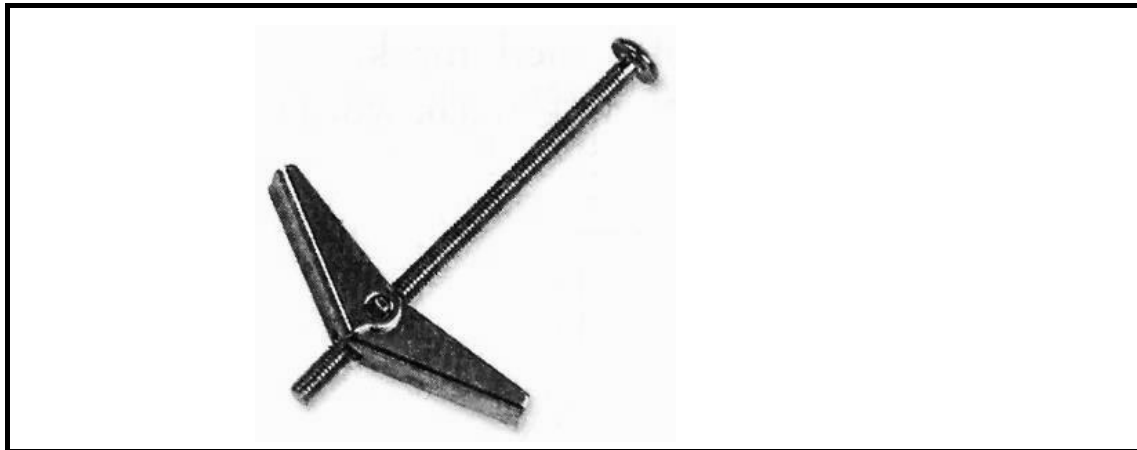

FIGURE 6.8
- 6.8 Answer the following questions with regard to the fixer in FIGURE 6.8.